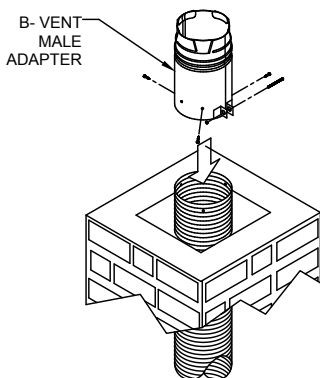

Figure 16
Step 1. You will need a B-Vent Cap (standard or high wind), Storm Collar, Top Plate, Male B-Vent Flex Adaptor, and a length of B-Vent Pipe to extend the Cap as needed (See **Figures 16 & 17**).
Step 2. Attach the male B-Vent Flex Adaptor to the flex with the locking lug and four sheet metal screws, as shown in **Figure 16**.